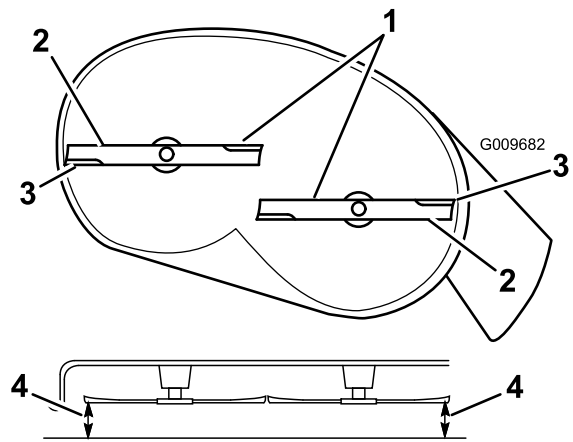

Figure 53
4. Carefully rotate the blades so that they are all side to side (Figure 53).
5. Measure between the outside cutting edges and the flat surface (Figure 53). If both measurements are not within 5 mm (3/16 inch), an adjustment is required; continue with this procedure.